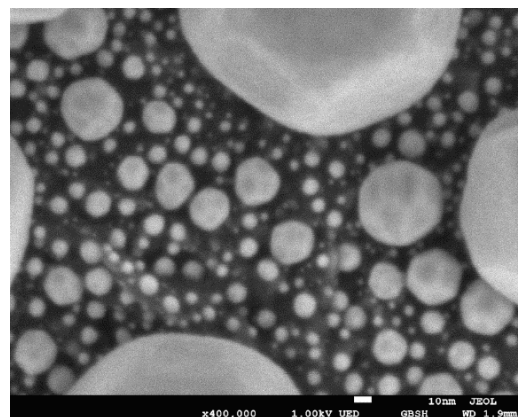
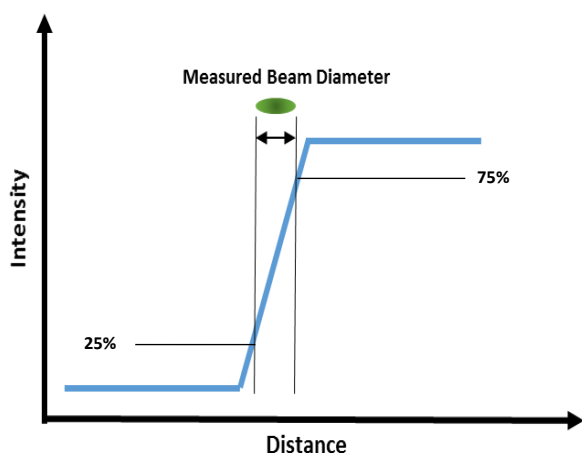
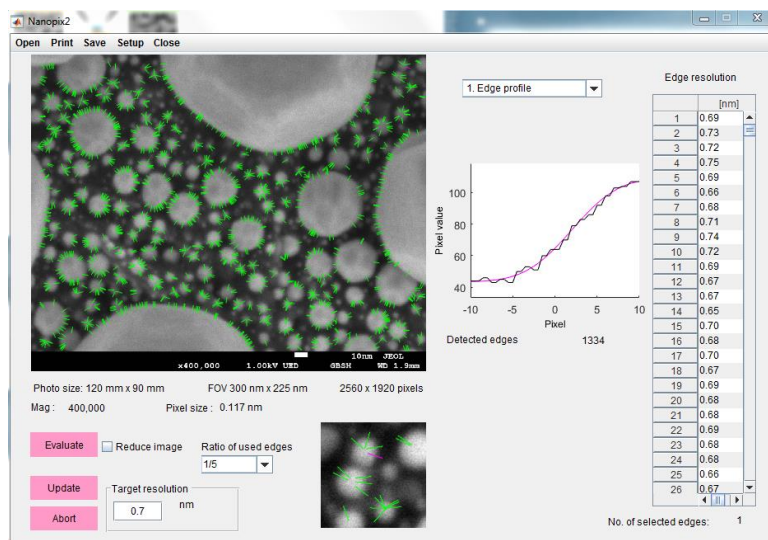

Figure 1: SEM image of a gold on carbon test sample
Figure 2: Edge profile of error functions for DR method
Figure 3: Nanopix measured resolution on the sample from Figure 1.
The International Organization for Standardization (ISO) has taken the guesswork out of determining resolution by publishing a Technical Specification [1] outlining *three* different acceptable methods for evaluating the sharpness in a digitized SEM image via computer algorithms. Using the Derivative (DR) Method, JEOL has created Nanopix, a proprietary software which determines image sharpness by "fitting error function profiles to gradient directional-edge profiles of particles in an SEM image" [1]. The analysis is completed on a sample of small gold particles evaporated on a carbon substrate (Figure 1). The distance for the edge profiles of particles is considered to be related to probe diameter and thus resolution. JEOL uses the ISO convention which measures at the 75th and 25th percentile of this transition (Figure 2). Figure 3 shows a Nanopix analysis on the SEM image from Figure 1, resolving a resolution of 0.7 nm. Some SEM manufacturers reportedly use the 65th and 35th percentile which can lead to much lower reported values of resolution even from the same method. The values will also differ on the same image between the three different methods, depending on various factors such as brightness and contrast, contrast-to-noise ratio, and pixel size. Clearly, resolution specifications cannot be compared easily today between different manufacturers.